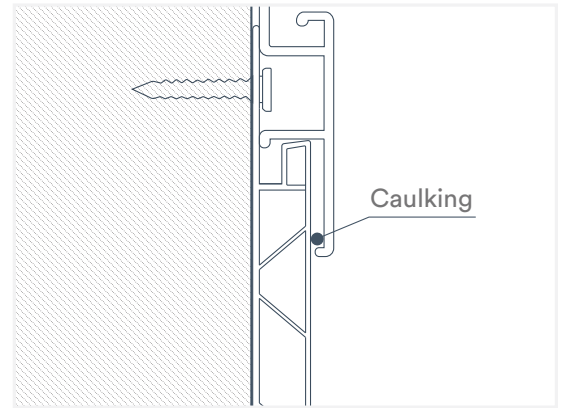

Fig. 24
2. If your installation is in a space with strong air movement, place a bead of silicone inside the bottom lip of the SlatWall panel where it meets the Wall&CeilingBoard panel(s) (Fig. 24). This ensures the panel will remain fixed in place. This step is optional.